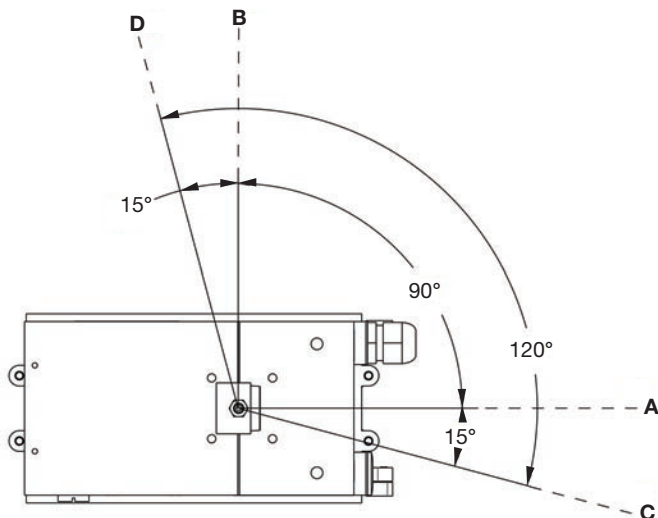

Fig. 21 View from the bottom of the positioner - Magnet orientation for clockwise actuator.
5.3.2 Adjust the magnet orientation as illustrated in Figures 21 and 22 and tighten the bolt to fix the magnet into position. There should be a distance of between 5 and 14 mm between the magnet and the positioner.
Refer to Figure 21 for actuator with clockwise rotation.